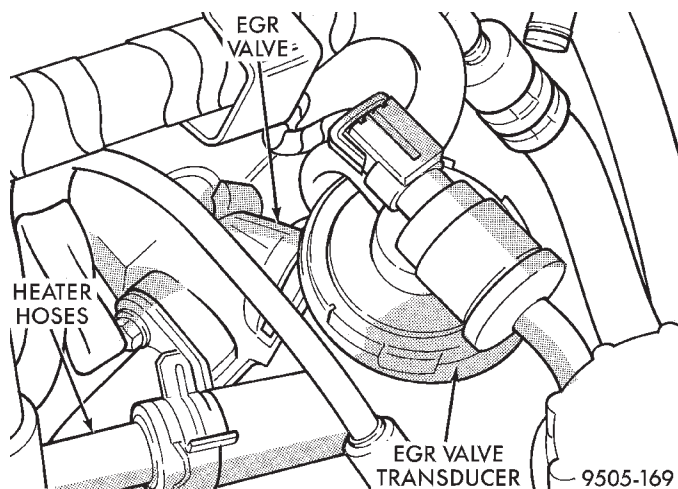

**Fig. 94 EGR Valve Transducer Assembly**
(7) Remove EGR valve transducer assembly and vacuum hoses (Fig. 94) from the EGR valve. **Valve removal is necessary for required clearance to remove power brake vacuum booster from vehicle and not damage transducer during removal.**
(10) Install the EGR transducer assembly on the EGR valve (Fig. 94). Install the vehicle wiring harness connector (Fig. 94) on the EGR transducer, ensuring the retaining clip is fully engaged with transducer.